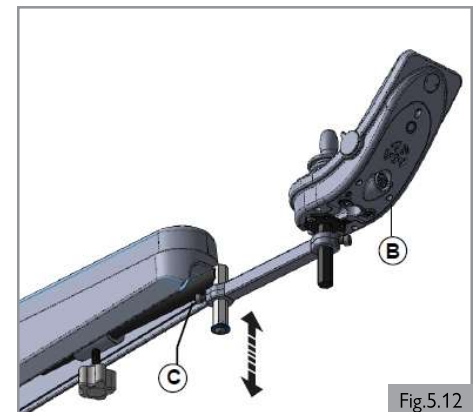
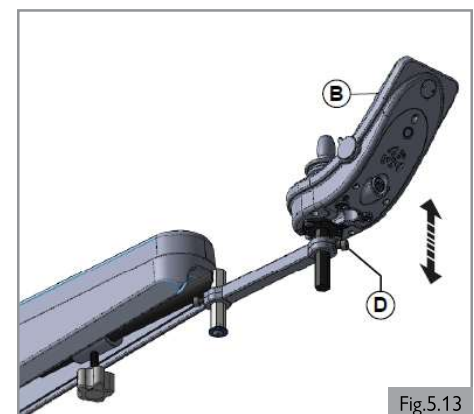

Fig.5.12
Fig.5.13
Pre-setting height of the controller (1) (Fig. 5.12)
1. Loosen screw (C).
2. Slide controller (B) to desired height.
3. Tighten screw (C). See section 8 for M6 torque.
Pre-setting height of the controller (2) (Fig. 5.13)
1. Loosen screw (D).
3. Tighten screw (D). See section 8 for M6 torque.